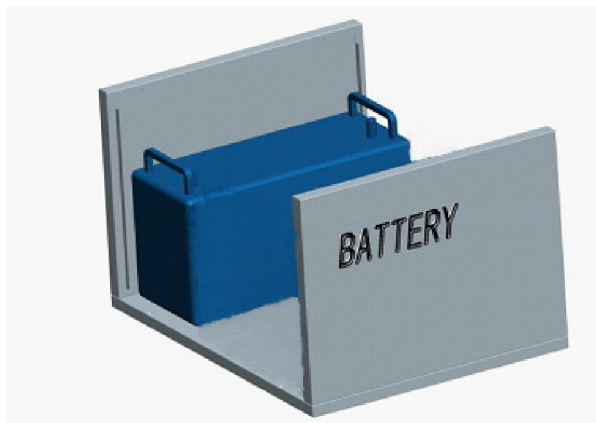

Fig. 2
Step 2. According to the provided wiring diagram and list, put the battery onto bottom plate of the cabinet, then wiring with the wire end locked on battery pole in Fig. 2.